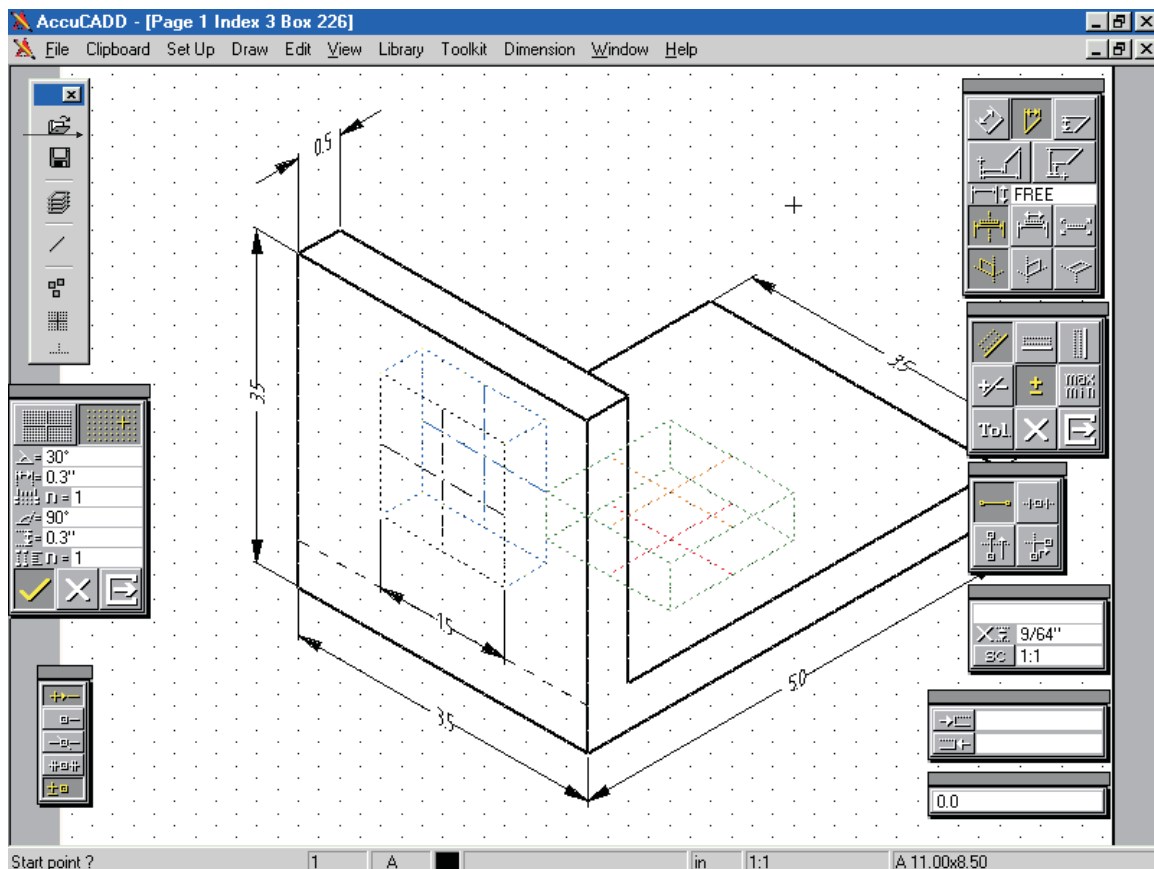

Figure 60: Isometric grid
- Reset the system (see figure 60), then select Snap Grid.
- Set the grid spacing to 0.25", if necessary, then change the 0° angle display (just below the two grid icons, arrowed in Figure 60) to 30°.
The dimensions in figure 60 are for your information only: drawing them is not part of this exercise. Note, however, that Accucadd provides automatic isometric dimensioning—the dimension text is “twisted” into the isometric plane, and the dimensioning lines are also in the isometric plane.